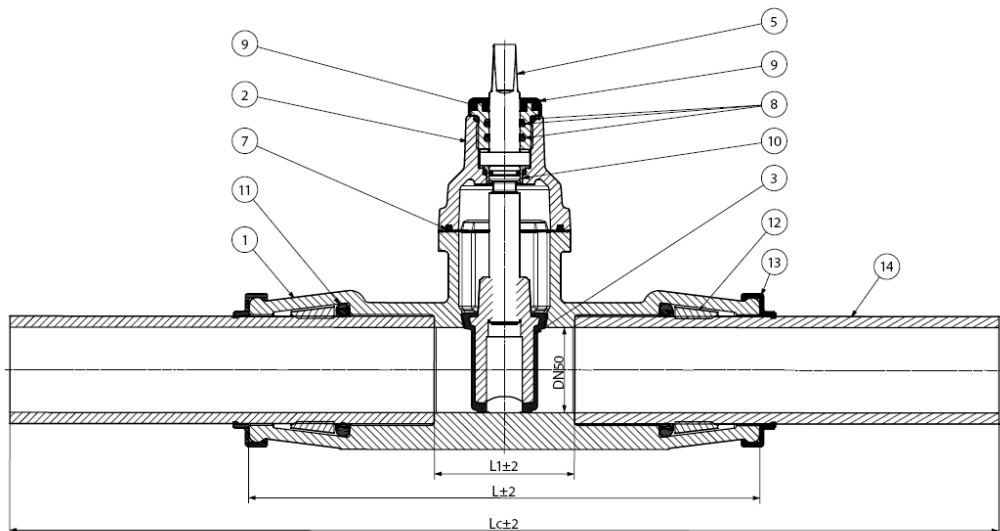

Fig. 2 The construction of the gate valve with PE ferrules for heat-sealing.
- Gate valve UG-PE (SDR 11) DN25-50 with PE ferrules for heat-sealing (Fig.2, Tab.6).
DN25-50 gate valves with PE ferrules (Fig. 2) are adjusted to be installed between the endings of the pipeline and are designed for connecting with the use of heat-sealing.